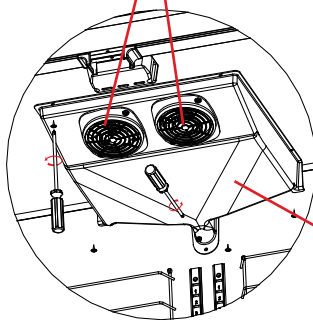

Fig 8-29
2. Remove the 5 screws fixing the evaporator cover assembly to the cabinet ceiling. (Fig 8-29)